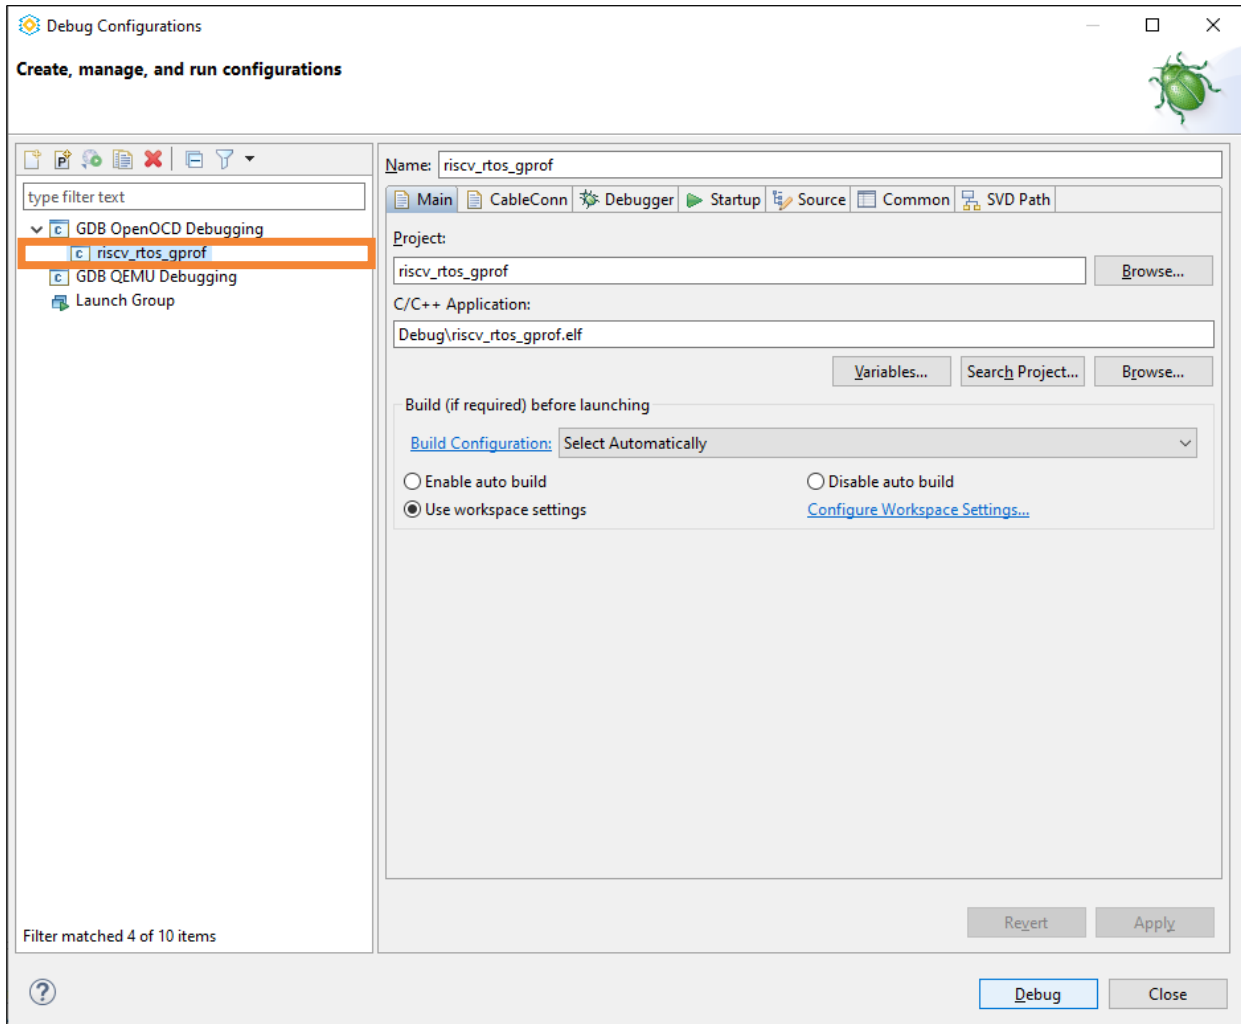

Figure 7.2. Debug Configurations Dialog 5
3. Select riscv_rtos_gprof in **GDB OpenOCD Debugging** (Figure 7.2).